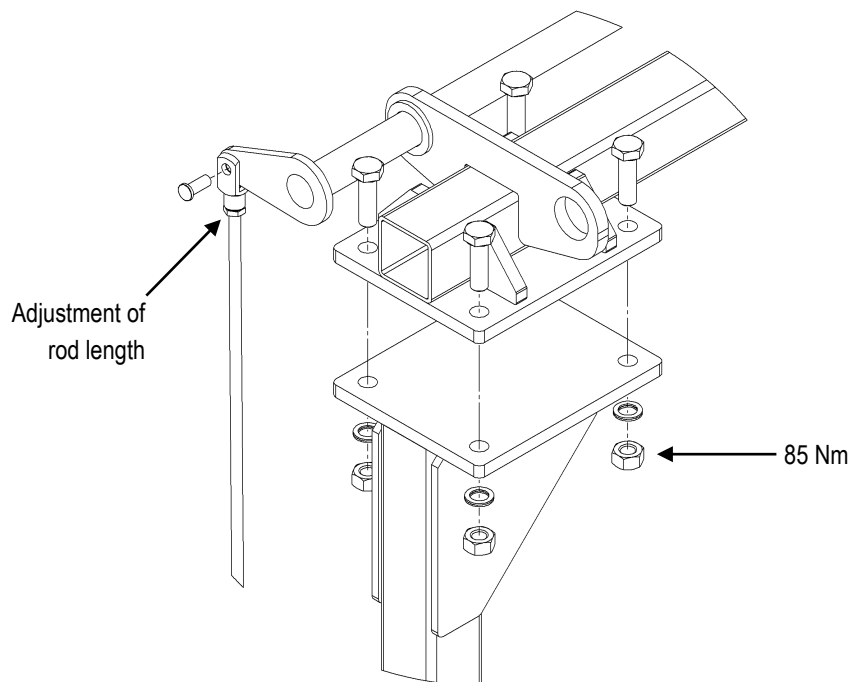

Fig. 9: Assembly of control part
- Screw controller to the switching bridge on the flange (see Fig. 9).